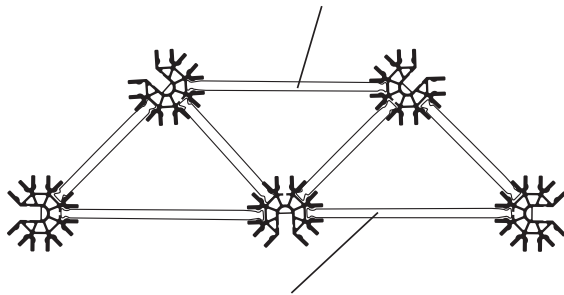

Fig. 3: Chain of triangles
1. Make a chain of equal sized triangles (See Fig. 3) and investigate as before.
NOTE: A framework of triangles, as used in Fig. 3, is called a truss construction.